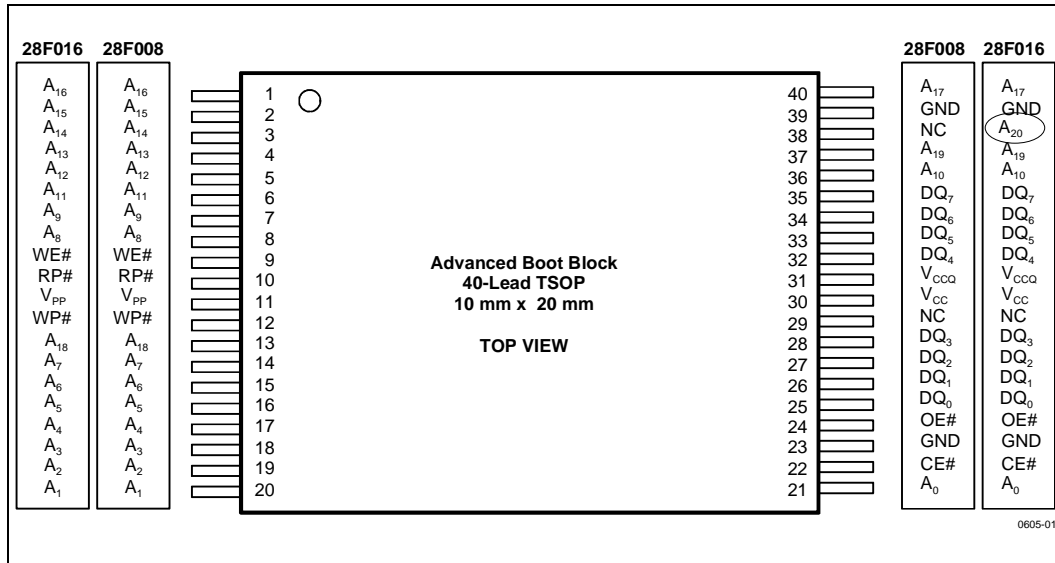
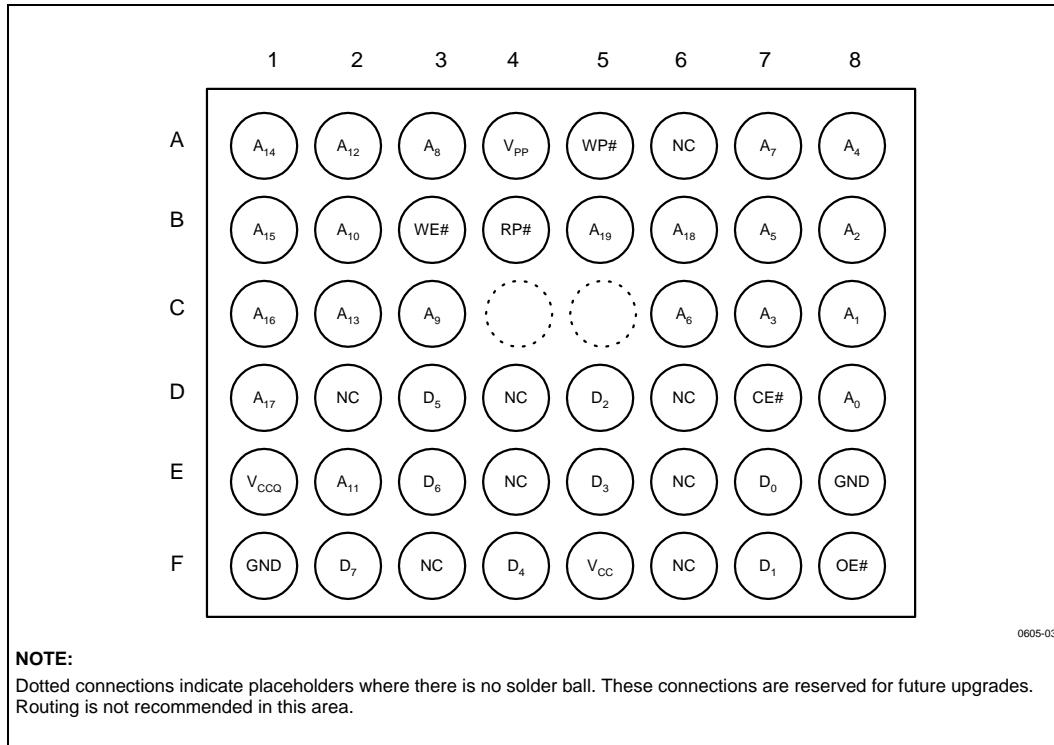

Figure 1. 40-Lead TSOP Package
Figure 2. 8-Mbit 48-Ball μ BGA* Chip Size Package
- V_{CCQ} input for 1.8V–2.2V on all I/Os. See Figures 1–3 for pinout diagrams and V_{CCQ} location
The Smart 3 Advanced Boot Block flash memory is available in 40-lead TSOP (see Figure 1) and 48-ball μ BGA packages (see Figures 2 and 3). In Figure 1, pin changes from one density to the next are circled. Both packages, 40-lead TSOP and 48-ball μ BGA package, are 8-bits wide and fully upgradeable across product densities (from 8 Mb to 16 Mb).